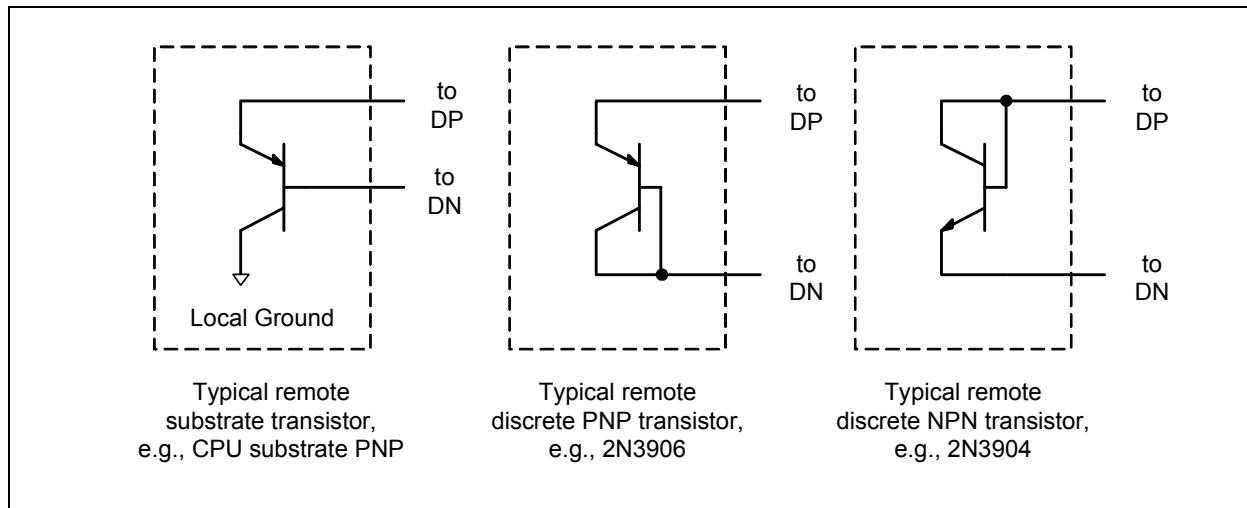

FIGURE 5: Remote Temperature Diode Examples.
The more negative terminal for the remote sensor (DN) is internally biased above ground with a forward diode voltage. This means that the DN pin is not referenced to ground, but to this internal bias voltage. The remote temperature diodes can be constructed as shown below in Figure 5.